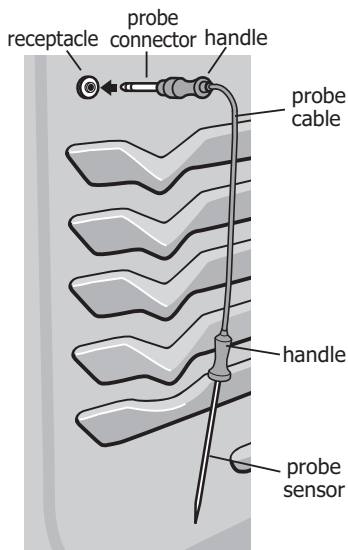

Figure 27: Using the probe
Do not use kitchen utensils to pull on the probe cable or handles. Always insert and remove the probe using the provided handles, as shown in Figure 27, and always use a pot holder to protect hands from possible burns.
2. Plug the connector end of the probe all the way into the probe receptacle while the oven is still cool. The receptacle is located on the upper left front oven cavity wall (See Figure 27).